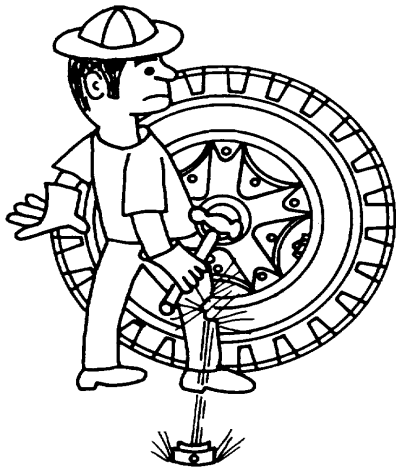

Fig. 3. Rim Clamps Can "Snap Off"
- (d) Unseat rim clamps with a sharp blow of a hammer or tire tool (Fig. 3).